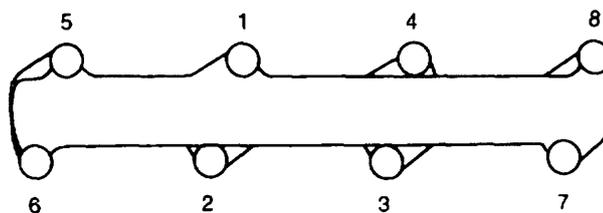

Figure 6 Exhaust Manifold Tightening Sequence
- e. Tighten the manifold retaining nuts and bolts to 16–25 N.m (12–19 lbf.ft) using the tightening sequence as shown in Figure 6.